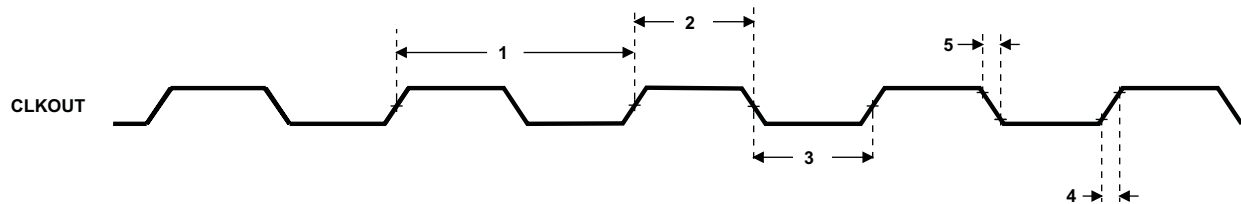

Figure 6-10. CLKOUT Timing
Table 6-5. Switching Characteristics Over Recommended Operating Conditions for CLKOUT^{(1) (2)} (see Figure 6-10)